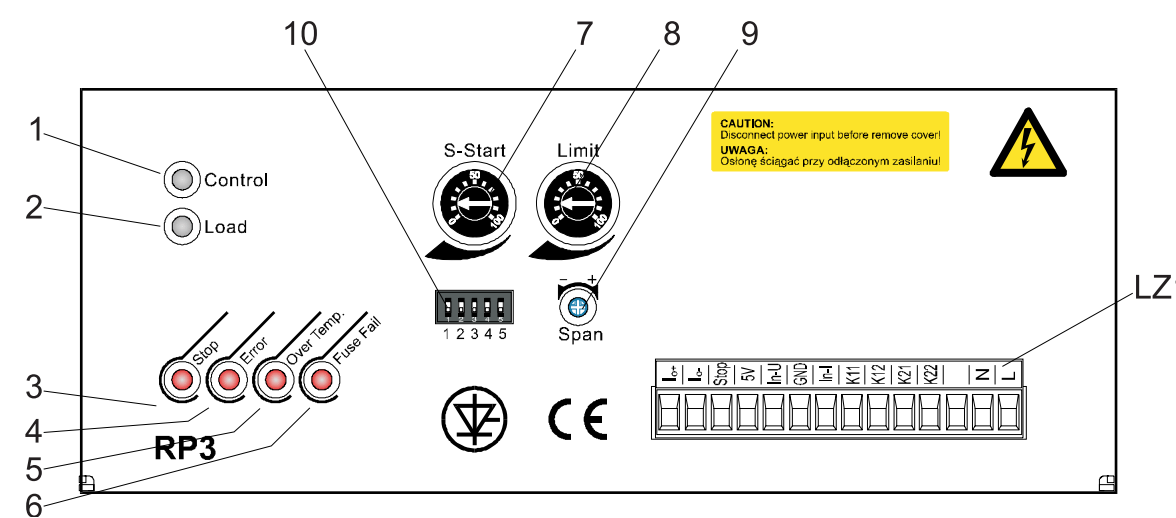

Fig. 3. Panel.
Following Servicing elements are disposed on the power controller frontal plate (Fig.3).
- a) to LZ1 terminal strips (fig.3) - wires with cross-section from 0.35 up to 2.5 mm²,
The power controller supply (Gate triggering system - **UWB**) must be connected to **L1** and **N** terminals of the LZ1 strip (fig.3.).